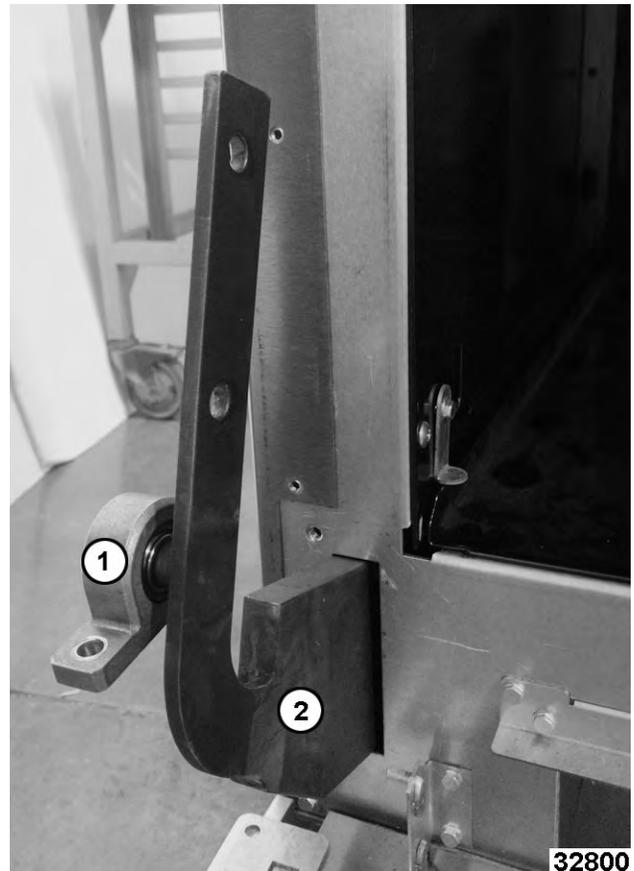

Fig. 91
4. Slide bearing (1, Fig. 91) off axle shaft.
5. Slide counterweight (2, Fig. 91) through opening.